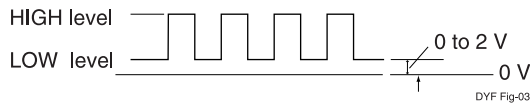

Figure 3. High and low level (Pulse output)
- Low level: 0 to 2 V DC. (refer to Figure3)